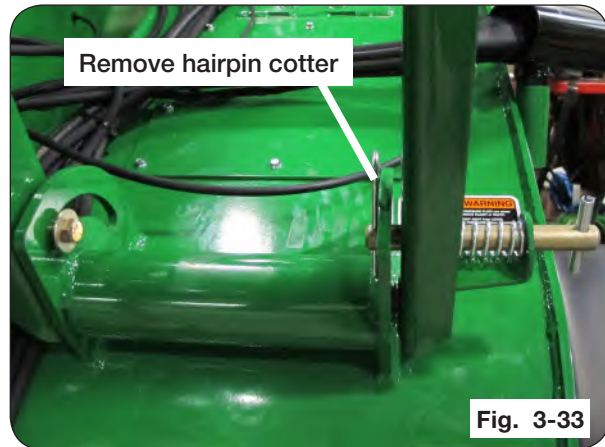
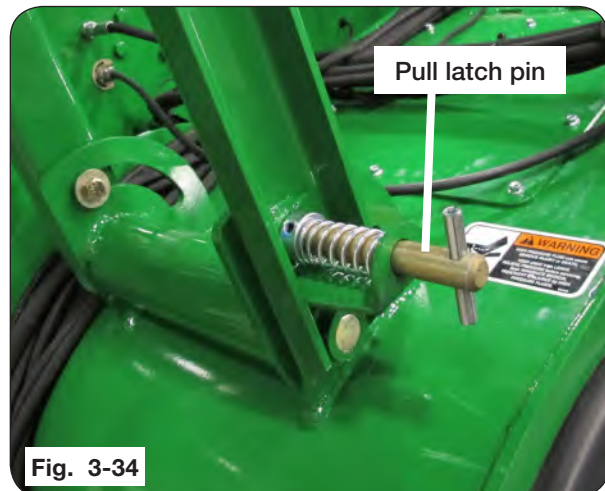

Fig. 3-33
Fig. 3-34
2. Remove hairpin cotter from latch pin (Figure 3-33) and pull latch pin to disengage (Figure 3-34). Raise auger rest stand up to field position and release latch pin. Make sure the pin is engaged in the field position hole and re-install hairpin removed earlier in this step.